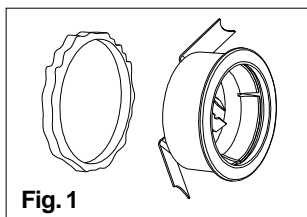

Fig. 1
- Mount complete swivel-flush cup with mounting clips first trough opening (Fig. 1).